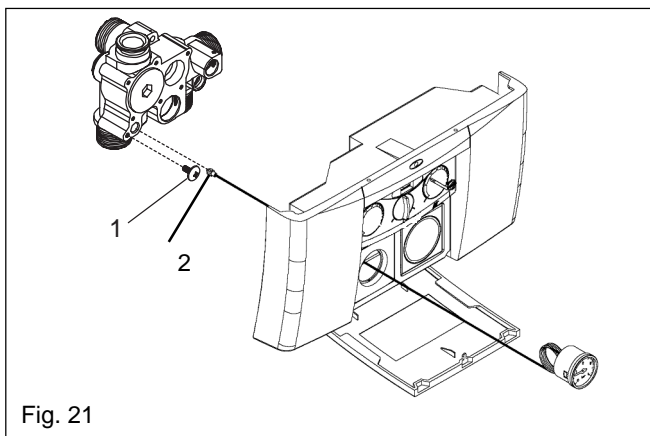

Fig. 21
6.9 PRESSURE GAUGE (see fig. 21)